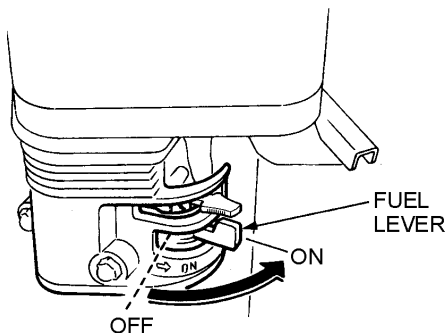

Figure 9. Engine Fuel Valve Lever
1. Place the engine ***fuel valve lever*** (Figure 9) to the "ON" position.